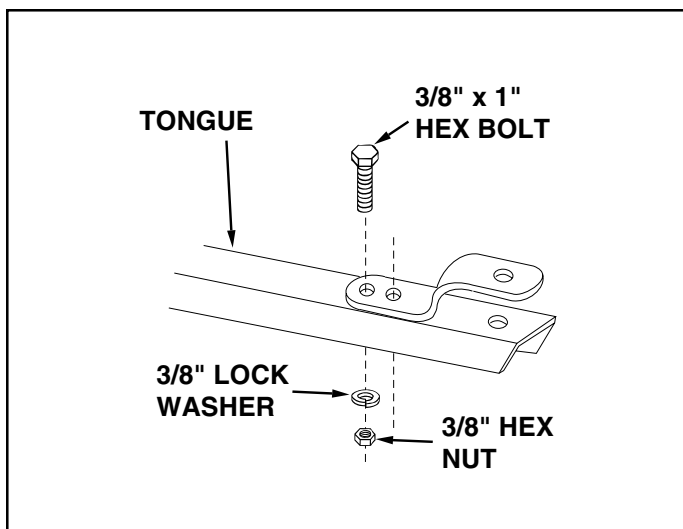

FIGURE 10
15. Assemble hitch bracket to drawbar tongue, using two 3/8" x 1" hex bolts, 3/8" lock washers and 3/8" hex nuts. See figure 10.